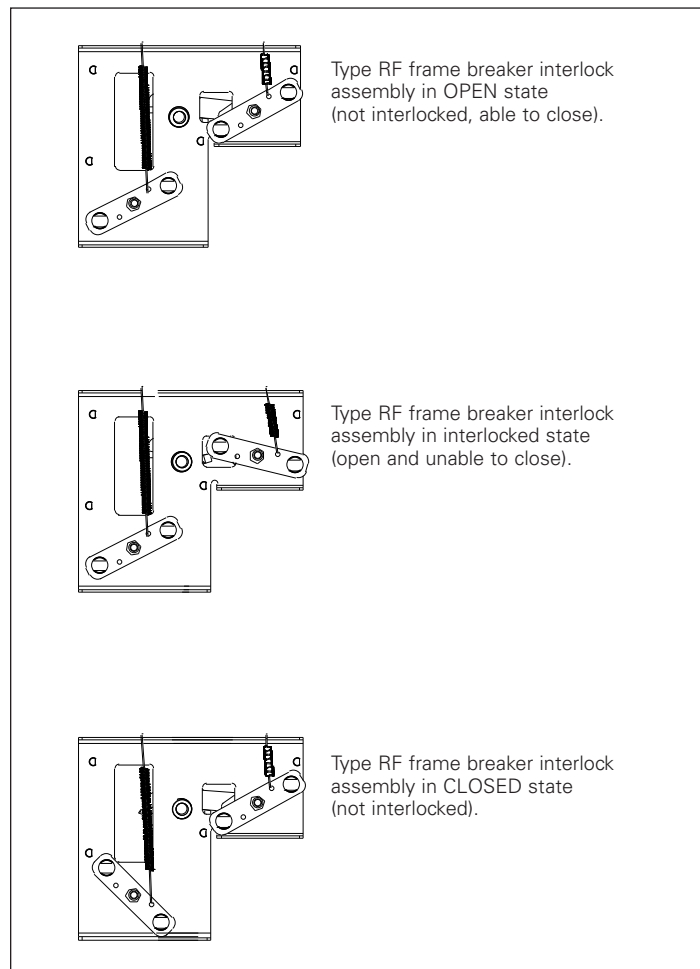

Figure 14. Position of interlock based on breaker state
Refer to **Table 1** and **Figure 1** for breaker position in the interlock configuration. Begin test sequence with all breakers OPEN. For **Breaker A**, verify that the interlock assembly is positioned as shown in **Figure 14** while in the various states required by the steps below. For **Breaker B**, use the figure included in the information leaflet for the interlock kit installed on those breakers.
- Verify that **Breaker A** closed using the OPEN/CLOSED indication and **Figure 14**
- Inspect driven lever on **Breaker B**. It should be positioned as shown in the figure of the information leaflet (IL) for the interlock kit installed on **Breaker B**
Open **Breaker A** (verify it opens using the OPEN/CLOSED indication and **Figure 14**).
- Verify proper operation on both breakers (use **Figure 14** to verify when **Breaker A** is interlocked)